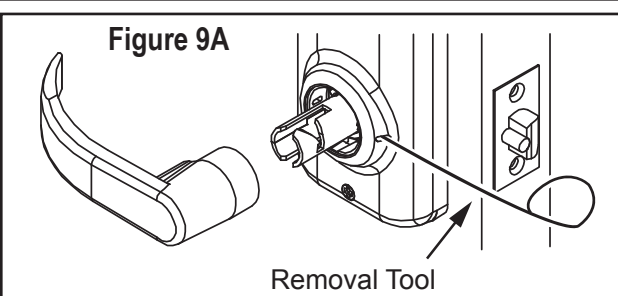

Figure 9A
1. Insert lever **removal tool** in slot. (Fig. 9A)